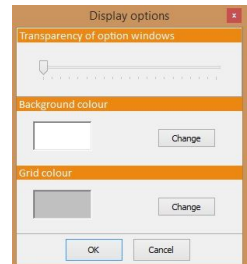

Fig. 38 - Display settings
- **'Options'** - opens the **'Display options'** window, where you can set the opacity of options windows and choose a background colour and lines visible in the wardrobe design visualisation (Figure 38).